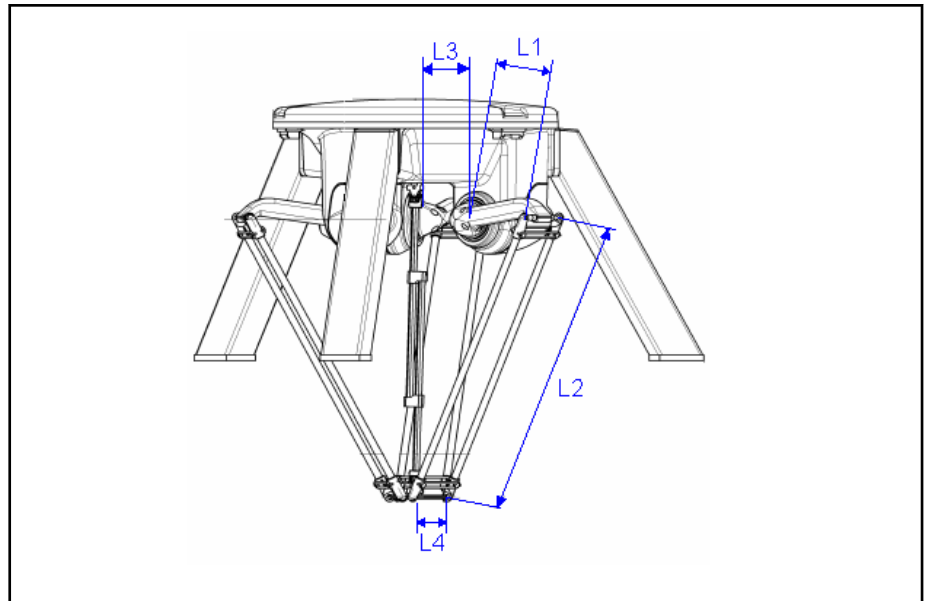

Fig. 4-19: Schematic view of 3-axis delta with 1 optional orientation axis
- fig. 4-19 "Schematic view of 3-axis delta with 1 optional orientation axis" on page 131 shows a delta robot at zero position of all axes, i.e. if the robot is in the position shown in the figures, the machine coordinates (MCS) for all of the axes have to be zero.